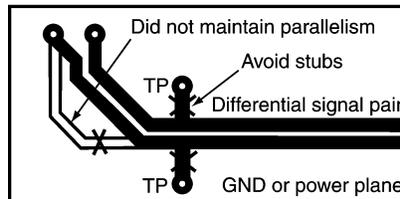

Figure 9. Differential Signal Pair
- The MDI pairs are suggested to be routed close together in parallel to reduce EMI emission and common mode noise (Figure 9). The spacing between each channel controls the inductive crosstalk and should be at least twice the spacing between the members of each pair.